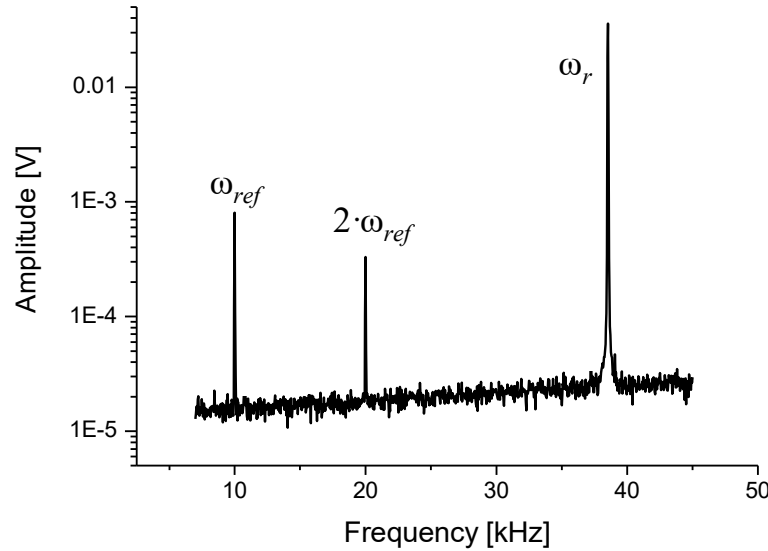

Figure 5: Frequency spectrum of the oscillating cantilever
A schematic diagram with the basic components of the lock-in amplifier is shown in Figure 5 on page 5. First of all the received signal is amplified and digitized. Divided into two separate channels, the signal is multiplied by the mentioned reference signal (with frequency ω_{ref}) and the 90° phase-shifted reference signal respectively. The reference signal is generated with the lock-in's digital oscillator. An additional implemented phase displacement Ψ enables to compensate phase differences caused by the measuring equipment. After multiplication, the resulting signals are low-pass filtered and provide now information about the real part X and the imaginary part Y of the analyzed signal relating to the phase position of the reference signal. Out of them the amplitude R as well as the relative phase shift φ are calculated.
Inserting equation (6) in (5) and using power-reduction formulas of trigonometric functions one can expect a force between tip and sample at the frequency ω_{ref} as well as at $2 \cdot \omega_{ref}$. Figure 5 confirms this prediction: It shows the frequency spectrum of the cantilever oscillation with clear signals at the mechanical excitation frequency ω_r and at the frequencies of the first and second harmonic of the electrical excitation.